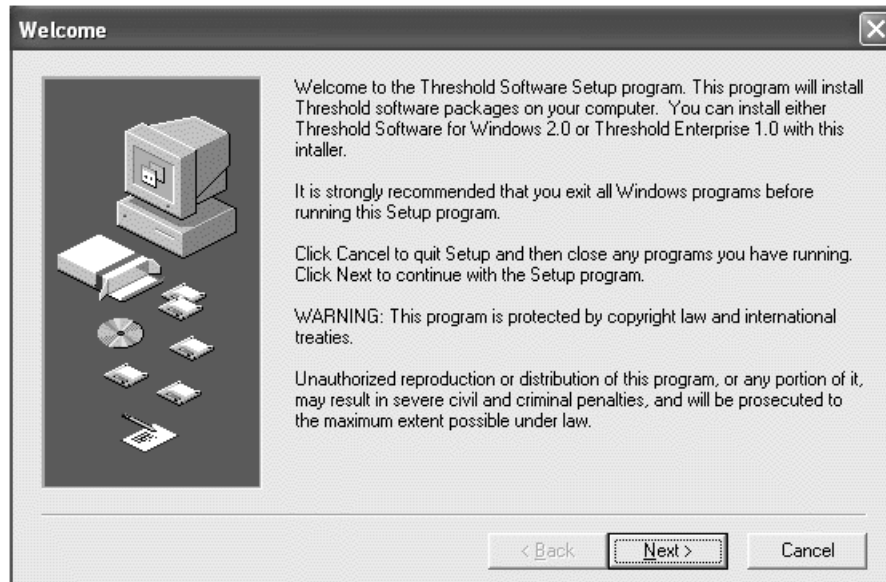

Figure E-1: Threshold Software Setup Welcome Screen
- 4) The **Threshold Software Setup** wizard opens (Figure E-1)